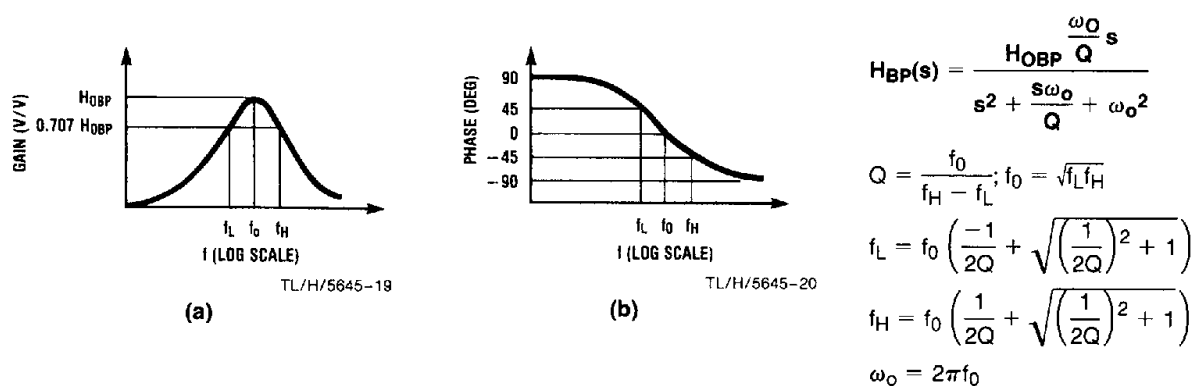

FIGURE 1. 2nd-Order Bandpass Response
**$f_0$** : center frequency of the second order function complex pole pair.  $f_0$  is measured at the bandpass outputs of the LMF100, and is the frequency of maximum bandpass gain. (Figure 1).
**Q**: "quality factor" of the 2nd order filter. Q is measured at the bandpass outputs of the LMF100 and is equal to  $f_0$  divided by the  $-3$  dB bandwidth of the 2nd order bandpass filter (Figure 1). The value of Q determines the shape of the 2nd order filter responses as shown in Figure 6.